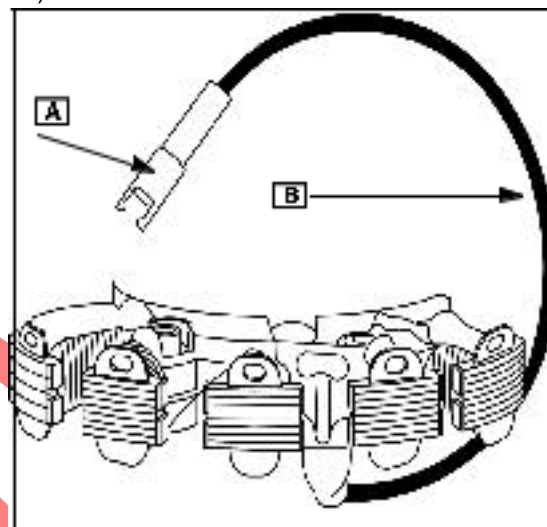

Fig. 17
The 1.2 amp DC alternator provides current for charging a 12 volt battery. The alternator has a RED connector (A) and BLACK wire ([B] Fig. 17).